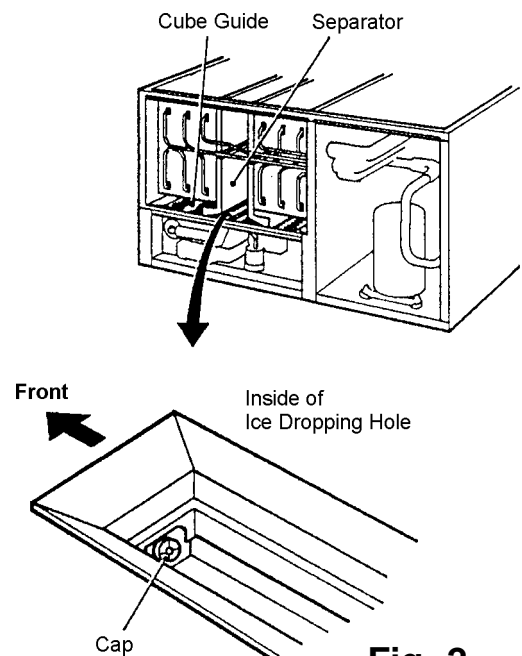

Fig. 2
- 3) Drain the Water Tank by removing the Insulation Panel and the cap at the front of the ice dropping hole. See Fig. 2.